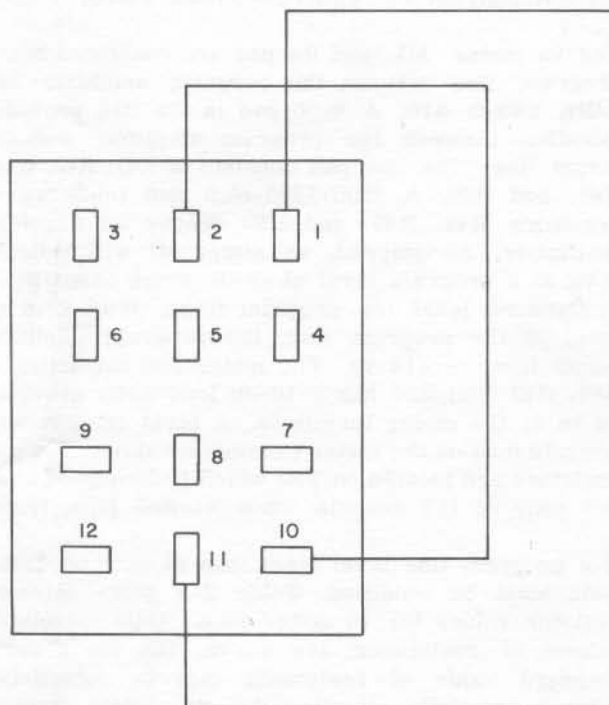

Figure 2-3. Jumper Plug Wiring Schematic Diagram
When mixing facilities are desired for a program source that has a self-contained preamplifier, it is necessary to insert a jumper plug into the jack normally used for a Preamplifier 356A-1. The jumper plug wiring schematic diagram is shown in figure 2-3. One jumper plug is supplied with Broadcast Console 212G-1.
d. Plug Preamplifiers 356A-1 or jumper plugs into J1 through J6 as determined by the number and types of inputs to be used. If a mixer is used with a source which does not require a preamplifier (tape recorder, turntable with external preamplifier) use a jumper plug in lieu of a 356A-1. Refer to figure 2-3 for the schematic diagram of a jumper plug. The input impedance should be 600 ohms (unbalanced). If an attenuation pad is needed, refer to figure 2-4 for correct values of resistance.